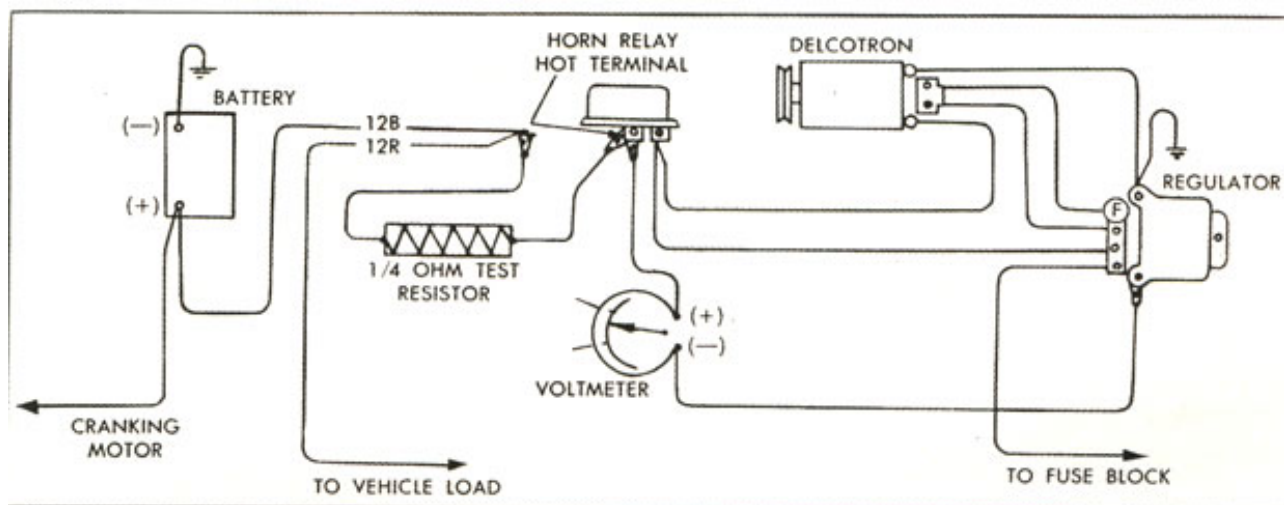

Fig. 2—Voltmeter and Resistor in Circuit for Regulator Voltage Adjustment
5. Connect a $\frac{1}{4}$ ohm (25 watt) fixed resistor into the charging circuit at the hot terminal of the horn relay (Figure 2).